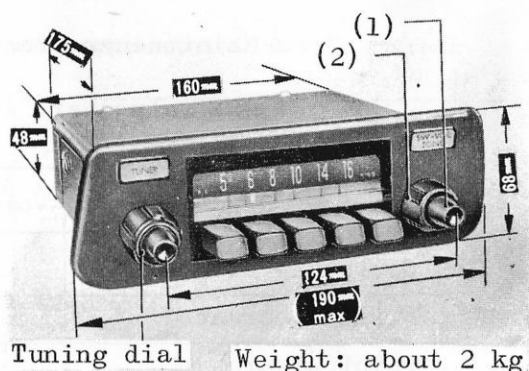

Fig. 10-157
Weight about 2 kg (Fig. 10-157)
Weight about 400gr over-all length 1060mm (Fig. 10-157)
(1) Combination dial for power and volume (Fig. 10-157)
- (2) Tone control dial (Fig. 10-157)
(3) Tuning dial (Fig. 10-157)